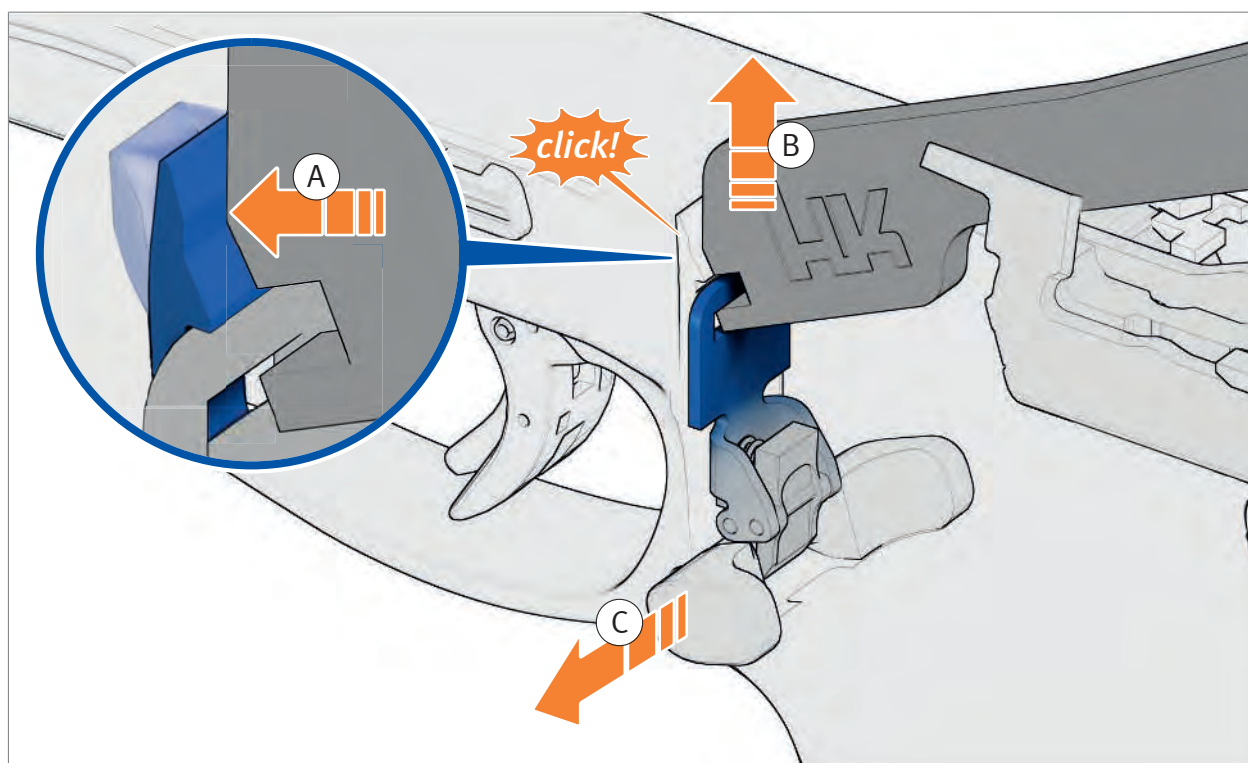

Fig. 30: Remove pushbutton
3. Push the latching clip in the frame forwards with the tool and then push the magazine catch upwards (Fig. 30). The magazine catch latches in.
4. Remove pushbutton (Fig. 30).